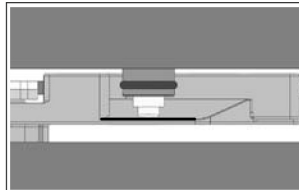

Fig. 3
- **Vertical adjustment** : After installing the damper body and counter plate, close the door slowly until the arm touches the shaft of the counter plate. Correct height is when the bottom of the shaft is at the same level as the lower edge of the slanted section of the arm (line on Fig. 3).